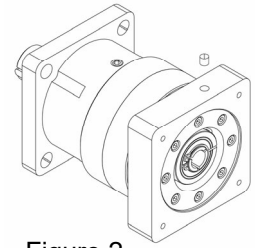

Figure 2
- 1) Remove access hole plug from the motor adapter. (Fig. 2)